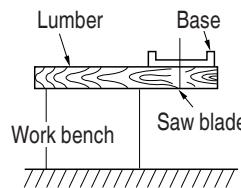

Fig. 18
- Prepare a wooden work bench (Fig. 18)